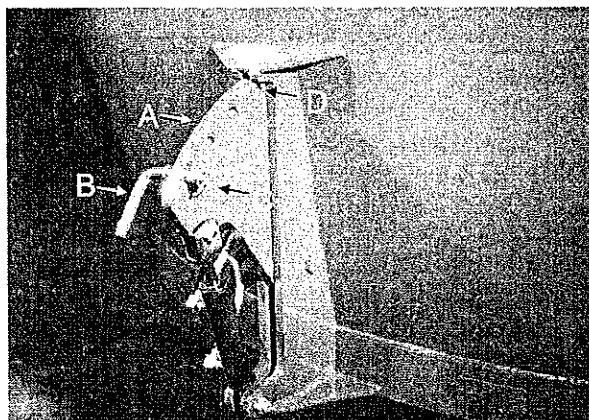

Figure 13. Hydraulic Restrictor Blade Adjustment.
**Restrictor Location and Function** - Your mixer includes either two or three restrictor blades (see Figure 13-A), depending upon mixer size. The restrictors are located near the bottom of the tub. Restrictors act as adjustable shear bars for the lower knives of the auger (scroll).
**Hydraulic Restrictor Adjustment** - The distance the hydraulically operated restrictors extend into the mixing tub is determined by the position of the depth stops (Figure 13-B). To adjust the restrictor depth stops, first shut off the tractor and relieve the hydraulic pressure. Remove the klik pin and the spacer from the depth stop (Figure 13-B). Remove the depth stop, install it in the desired position, and reassemble the spacer and klik pin. To reduce the
cutting action, select a linkage hole closer to the tub (toward the position shown by Figure 13-D which causes the blades to be more withdrawn from the tub). For a more aggressive cut, select a hole away from the tub (toward the position shown by Figure 13-C which causes the blades to extend further into the tub).